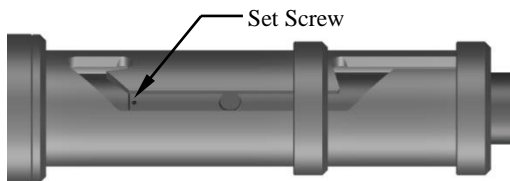

Fig. 6
L-2.17) Screw set screws (38) into J-pin bottom sub (23). Move J-body (20) as needed (Fig. 6).